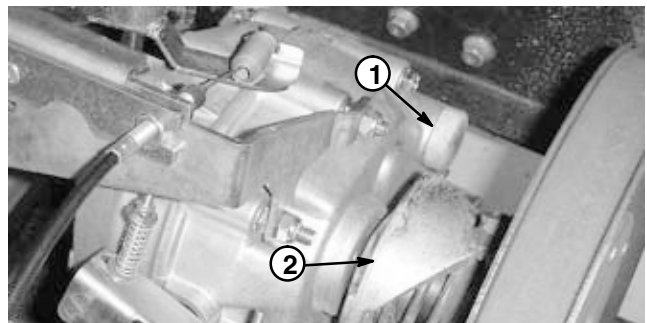

Figure 20
- A. Fill case with about 1.5 quarts (1.4 liters) of motor oil (Fig. 20).